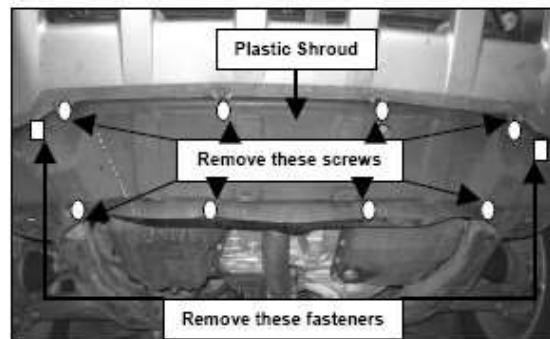

Figure 2
(4) screws on bottom, and (1) fastener on each side (Figure 2).